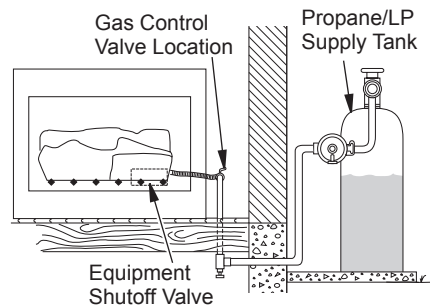

Figure 19 - Checking Gas Joints (Propane/LP only)
3. Check all joints from gas meter to equipment shutoff valve for natural gas or propane/LP supply to equipment shutoff valve for propane/LP (see Figures 19 and 20). Apply noncorrosive leak detection fluid to all joints. Bubbles forming show a leak.
4. Check all joints to gas control (see Figures 19 or 20, page 15). Apply noncorrosive leak detection fluid to all joints. Bubbles forming show a leak.